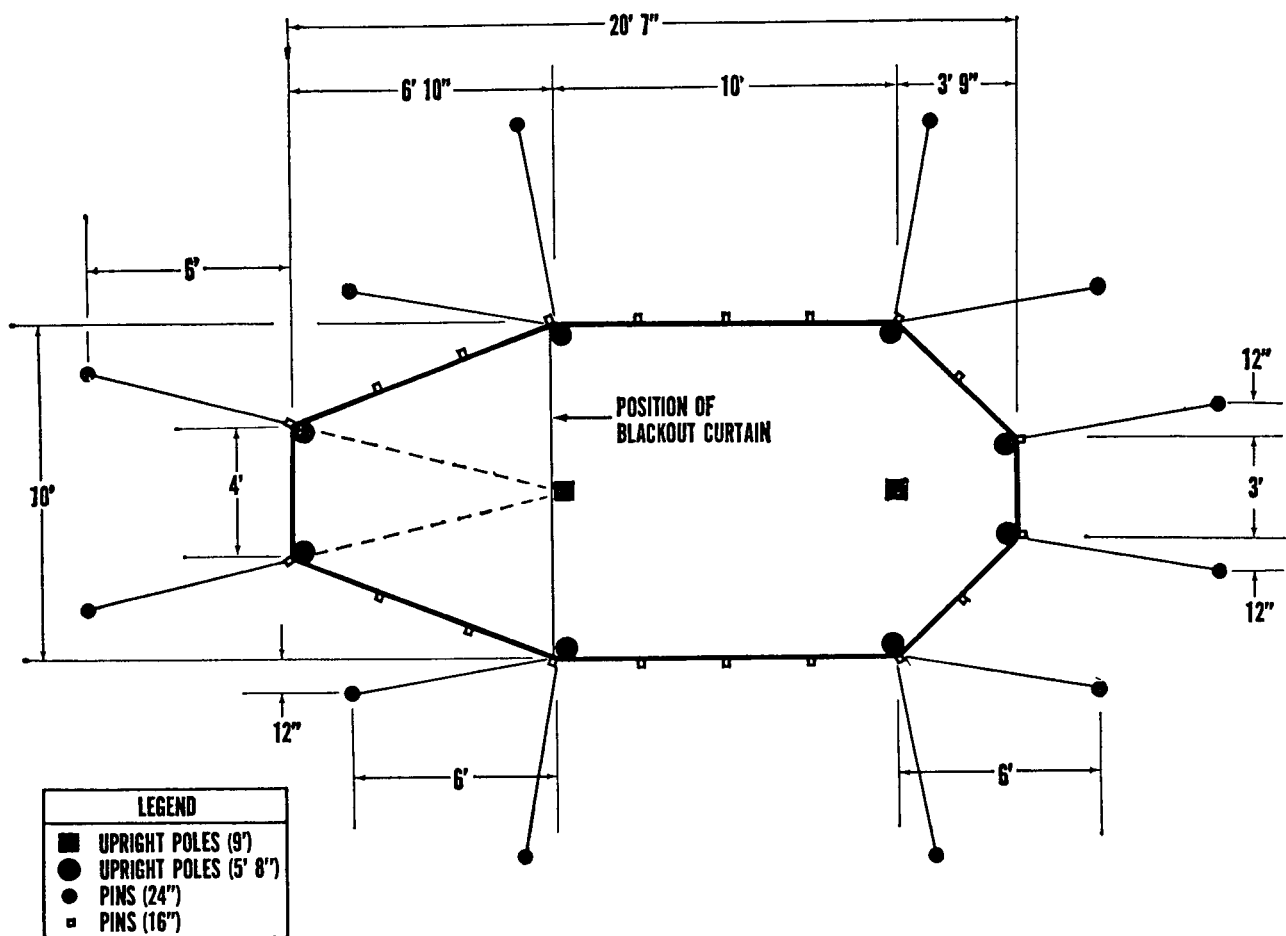

Figure 14. Ground plan of tent, command post, M-1945.
c. Ground Plan. Before pitching the tent, study the ground plan carefully (fig 14).